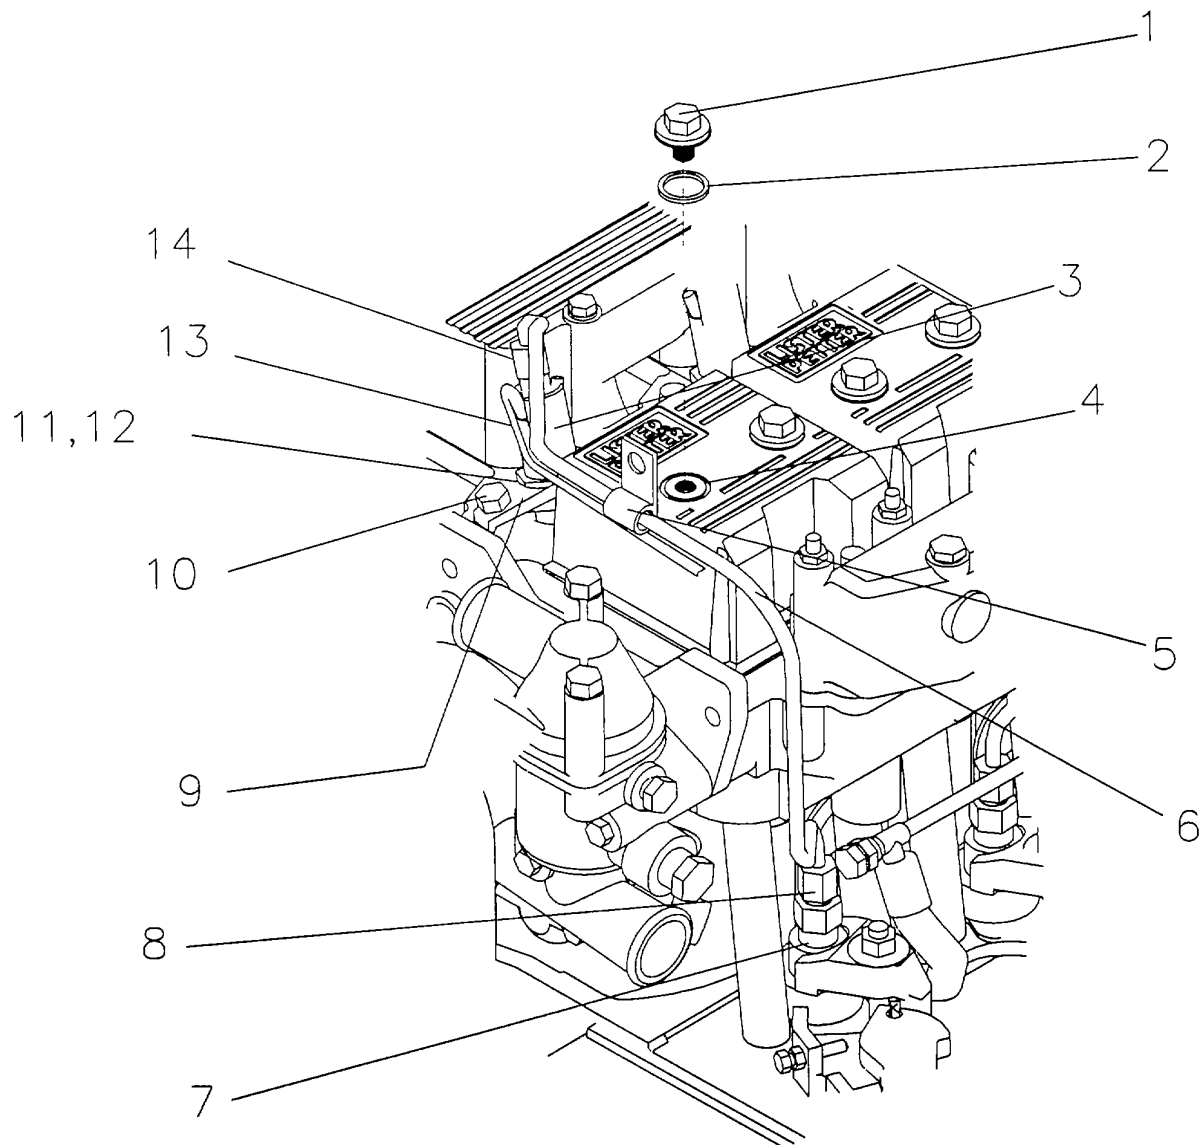

Figure 5-12. Fuel Injector.
a. Removal. Refer to figure 5-12.
- 1) Disconnect and plug injector leak-off hose (13) from the injector body (3).
- 2) Remove the cylinder head cover nut (1) and rotate fuel tube clamp (5) out of way Discard seal, special (2)
- 3) Disconnect fuel tube nuts (8 and 14) and remove fuel tube (6)
- 4) Remove injector clamp bolt (10), clamp (9) and injector (3).
- 5) Remove and discard injector copper sealing washer (11) from the cylinder head taking care not to damage the sealing area and plug injector port.
b. Inspection Refer to figure 5-12.
c. Installation, Refer to figure 5-12.